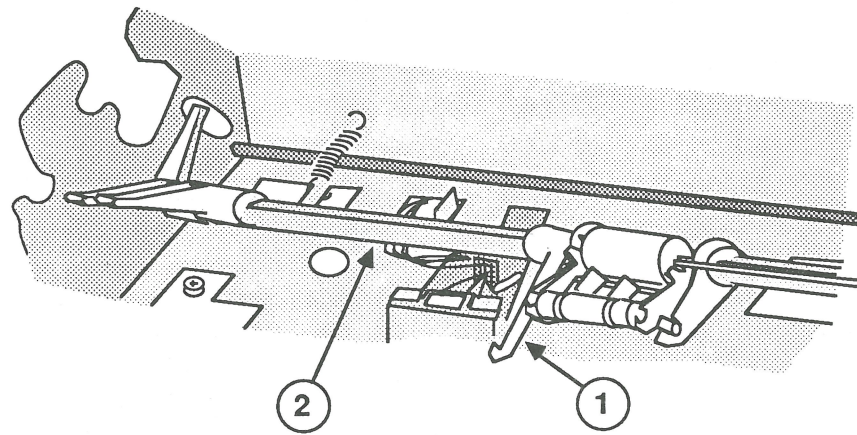

FIGURE 24
6. Use the needlenose pliers to remove the paper-out sensor arm (Figure 24, #1) from the release lever shaft (Figure 24, #2).